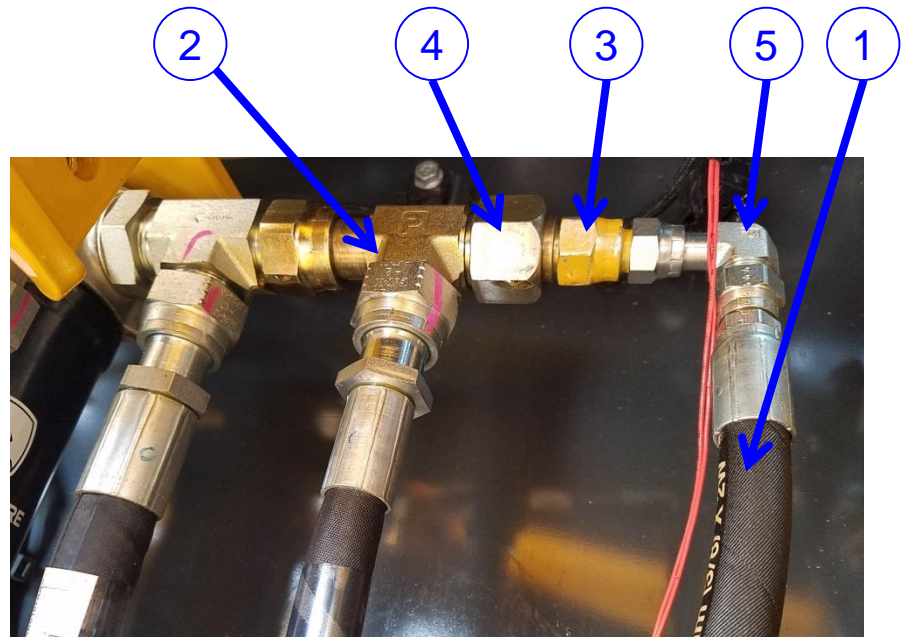

Fig. 9 - Tractor hydraulic return lines and adaptation fittings for winch Return line. Winch return line shown.
15. Install item 2 tee, item 4 reducer, item 3 reducer and item 5 elbow as seen in figure 9.
16. Connect tank return line item 1 and run it out the back of the tractor as seen in figure 9.